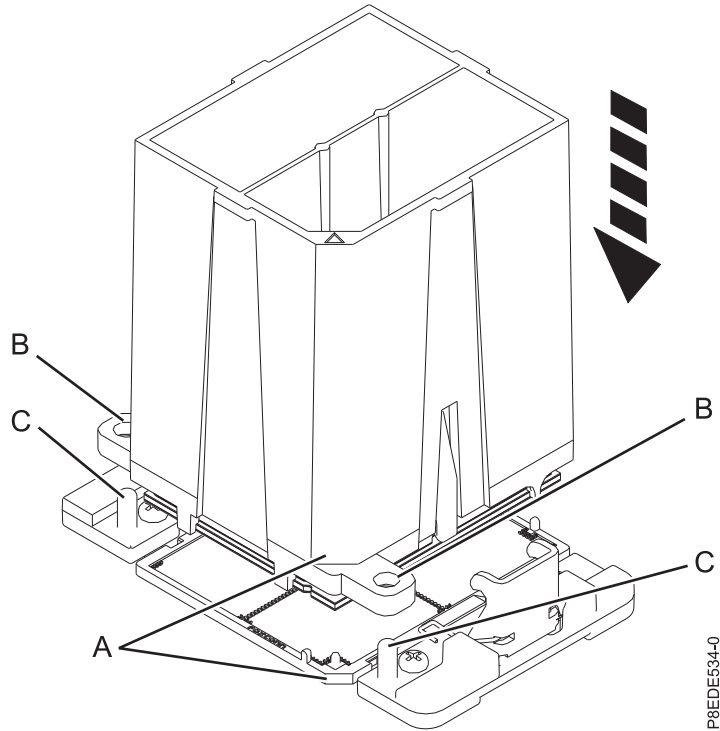

Figure 166. Installing the system processor module
- b. Lower the tool and system processor module onto the socket. Align the beveled corner (A) of the tool with the beveled corner on the socket. Ensure that the two guide pins (C) are inserted into the alignment holes (B) on each side of the tool. Use care to lower the tool evenly without tilting the tool. See Figure 166 on page 146.